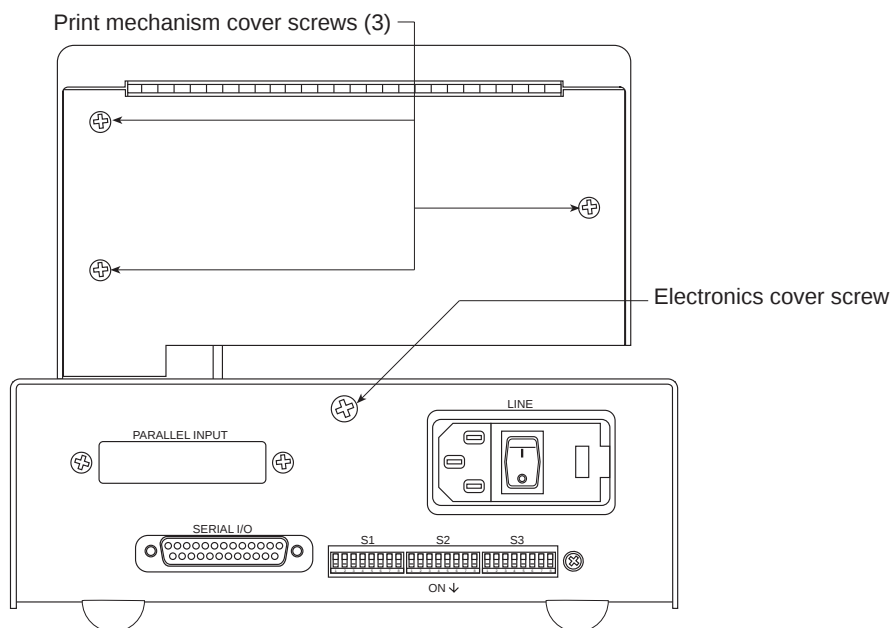

Figure 2-8. Back of SP2200, showing screws for removing electronics and print mechanism covers
2. Remove 3 screws from back of print mechanism cover (see Figure 2-8). Lift and remove cover.
3. Remove screw from the back of the base enclosure (see Figure 2-8). Slide the printhead to the far left (home position) then remove the electronics cover by lifting at back, tipping forward, and lifting over print mechanism.